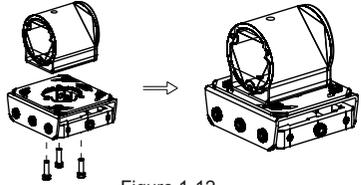

Figure 1-12
Step 5-1 wall mounting assembly: pay attention to the direction when installing the elbow. Install the elbow with M5 * 16 screws (Refer figure 1-12)